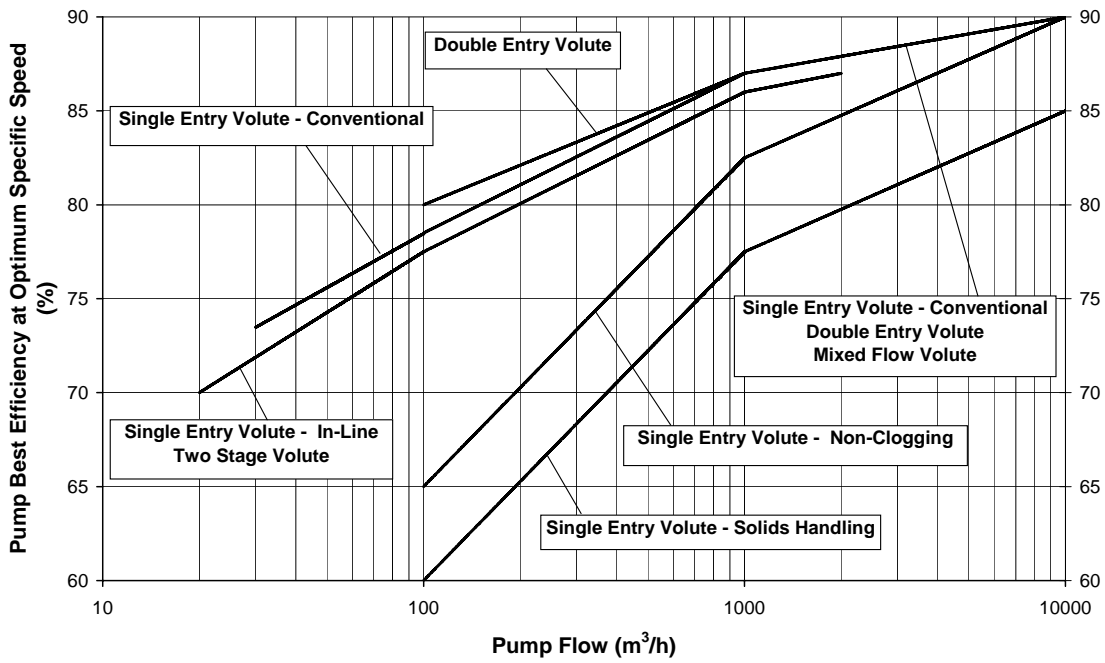

Fig 10.
This ‘Equivalent efficiency’ at Optimum Specific Speed can then be compared with other pumps using plots such as Figs 10 and 11 below.
The plots on Figs 10 and 11 below give a rough guide to the mean Best Efficiency levels of rotodynamic pumps at Optimum Specific Speed. These should not be taken too literally, since they are based on fairly small samples and efficiency variation can be very wide for some pump types (e.g. in the case of Single Entry Volute - Solids Handling pumps, the pump geometry (and therefore efficiency) depends on the solids size, shape, concentration and hardness, on the pump material chosen, on the impeller design and on the method of shaft sealing).
To use the plots, the Specific Speed (Ns) at a pump’s chosen duty should first be calculated using formula (1) in section 7.1 above. Then its quoted efficiency should be converted to Optimum Specific Speed, using formula (2) in section 7.1, before comparing with Figs 10 and 11. In most cases this derived efficiency at Optimum Specific Speed is unlikely to come very close to the plotted efficiencies, since the pump’s chosen flow will probably lie above or below Best Efficiency flow and/or the impeller diameter may be reduced. However, the curves do provide a rough benchmark, by indicating the sort of efficiency that can be obtained if it is possible to find a pump which is close to Best Efficiency at the chosen duty. For illustration of the procedure, see the worked example below (section 7.3).
| Mean Best Efficiency from Fig 10: | 87%. |